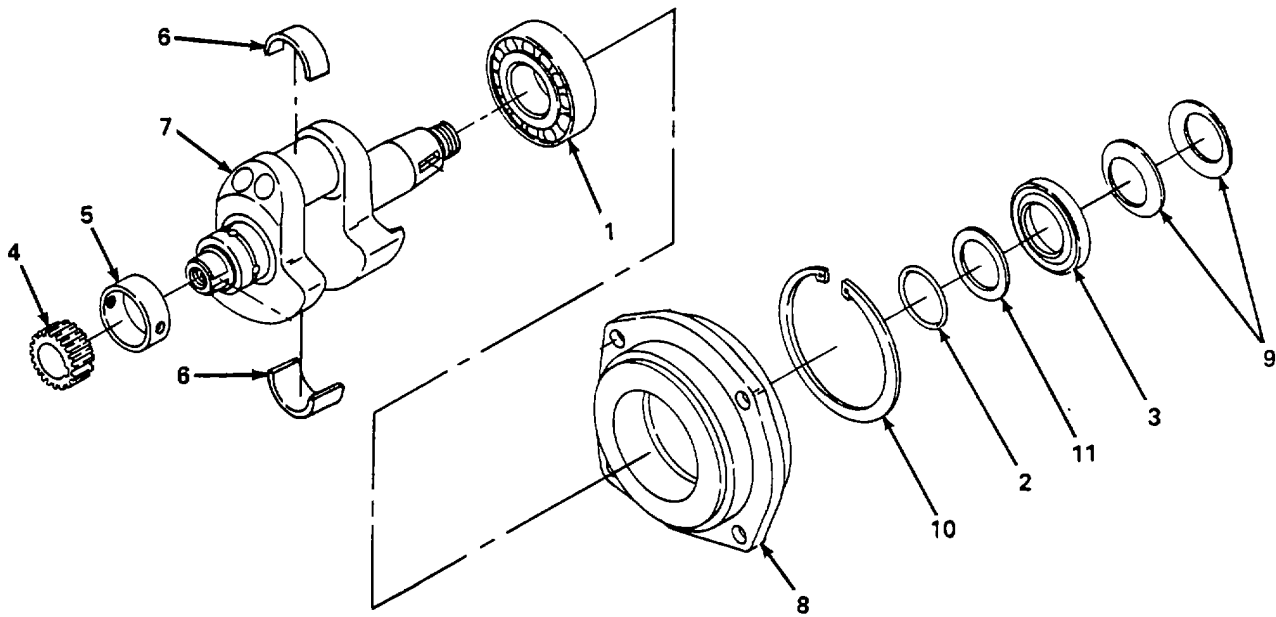

Figure 6-22. Crankshaft, Repair.
- (1) Install oil pump assembly (para. 5-34).
- (2) Install governor assembly (para. 6-17).
- (3) Install oil filter screen (para. 4-31).
- (4) Install piston and connecting rod assemblies (para. 6-20).
- (5) Install flywheel (para. 5-35).
b. Replace. (figure 6-22)
- (1) Remove crankshaft (para. a.).